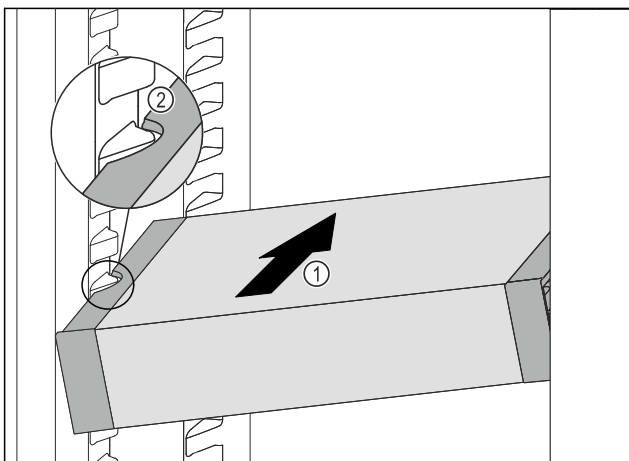

Fig. 125
- ▶ Insert the VarioSafe into the fridge section at an angle *Fig. 125 (1)* until the recesses in the side *Fig. 125 (2)* of the VarioSafe are at the level of the support rib in the fridge section.